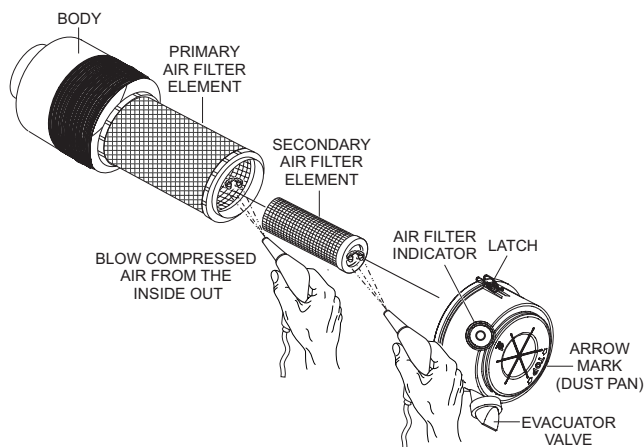

Figure 65. Engine Air Cleaner
This John Deere diesel engine is equipped with a replaceable, high-density, paper air cleaner element (Figure 65). The air cleaner is also equipped with an inner (secondary) element that is used as a backup filter should the primary element become damaged. Check the air cleaner daily or before starting the engine. Replace the air cleaner as needed.
1. Release the **latches** that secure the **air cleaner cover** to the **air cleaner body** (Figure 65).
2. Remove the air cleaner cover (Figure 65) and set it aside.
3. Remove both the primary and secondary **air cleaner elements** (Figure 65).
5. To clean the **primary element** (paper air filter) as shown in Figure 65, tap the filter element several times on a hard surface to remove dirt, or blow compressed air, not to exceed 30 psi (207 kPa, 2.1 kgf/cm²), through the filter element from the inside out.
8. Clean the inside of the air cleaner body (Figure 65).